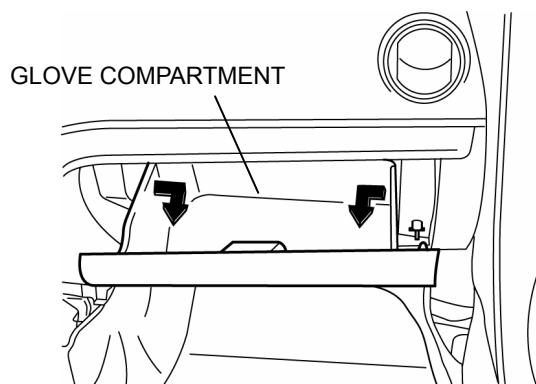

FIGURE 9
- B. Press both ends of the inner-side glove compartment in the direction of the arrow in the figure. (refer to Figure 9)